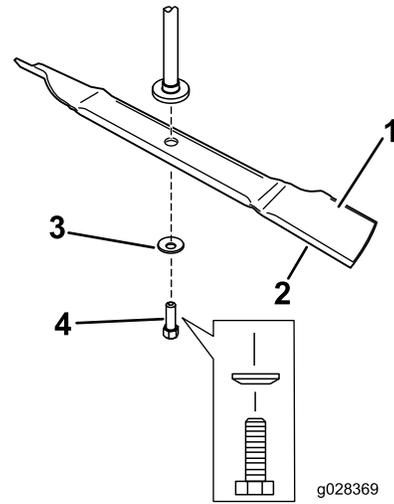

Figure 9
2. Install the curved washer (cupped side toward the blade) and the blade bolt (Figure 9).
Note: Do not install a blade stiffener. These blades do not require the blade stiffener (Figure 9).
1. Install the blade onto the spindle shaft (Figure 9).